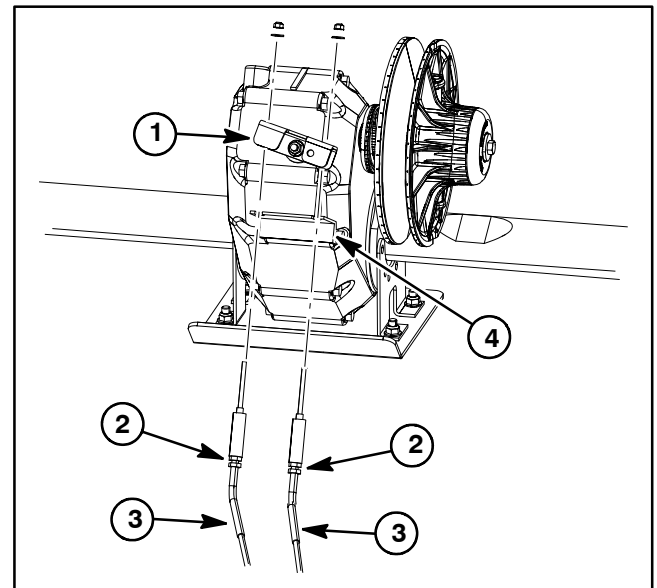

Figure 16
- A. Loosen jam nuts securing both shift cables to the cable bracket on the transaxle (Fig. 16).